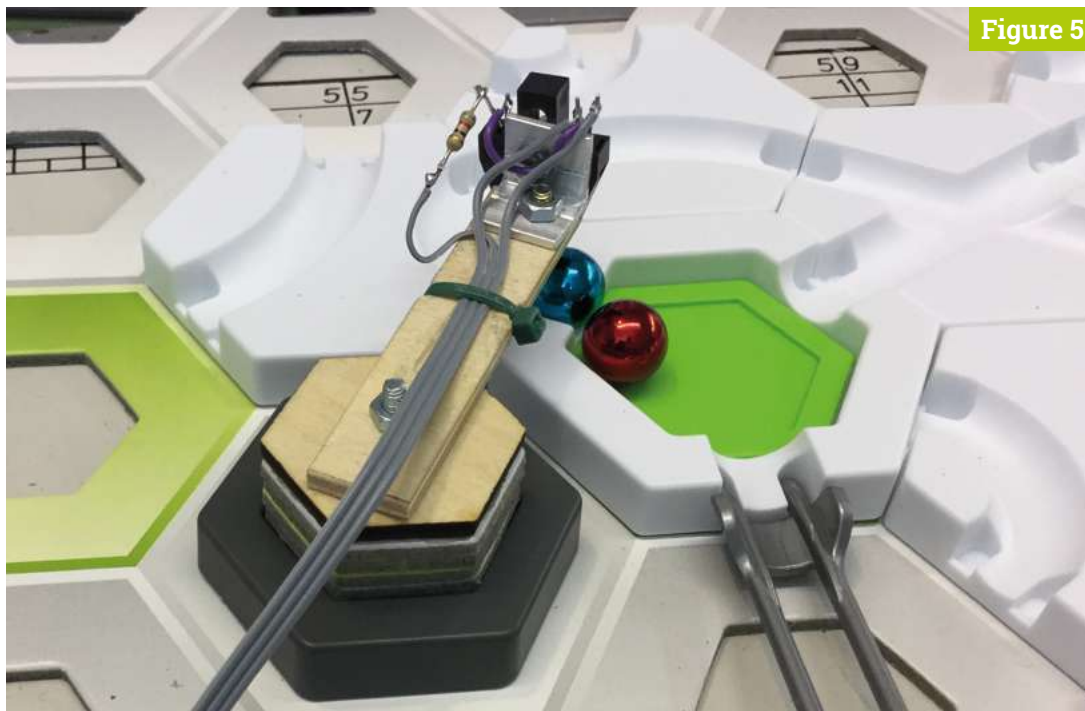

Figure 5
► Figure 5 The reflective detector in action
Figure 4 shows the measurements of the plywood arm, and the mounting bracket made from a piece of 12×12 mm angle aluminium. The arm should be notched with the corner of a square file; this is so a cable tie can grip the ribbon cable without slipping. The height of the sensor is adjustable due to a long slot in it, allowing it to be slid up and down. You need a gap of about 2 mm between the sensor and the top of a ball to detect it reliably (Figure 5). You can mount two arms on a stack to get coverage of another position.